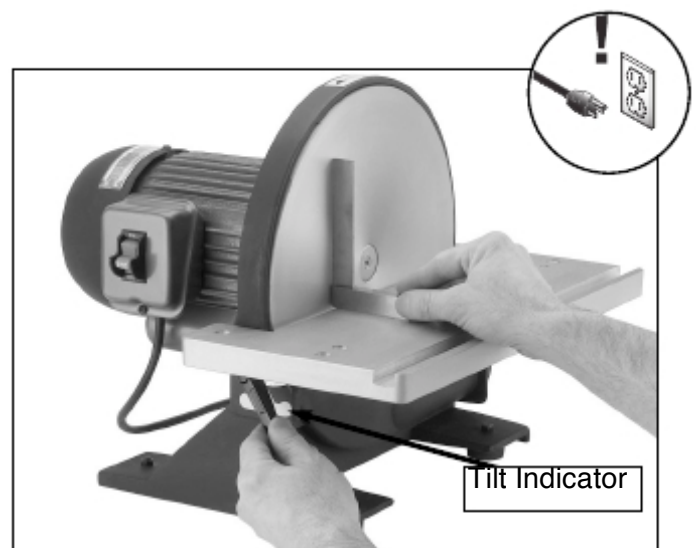

Figure 3. Squaring disc table.
1. Using a try square or machinist's square, set one edge on the table surface and the other against the face of the disc as shown in **Figure 3**. Note— *This can be done with the sandpaper installed, although it is somewhat easier to measure if the disc does not have the sandpaper disc installed.*